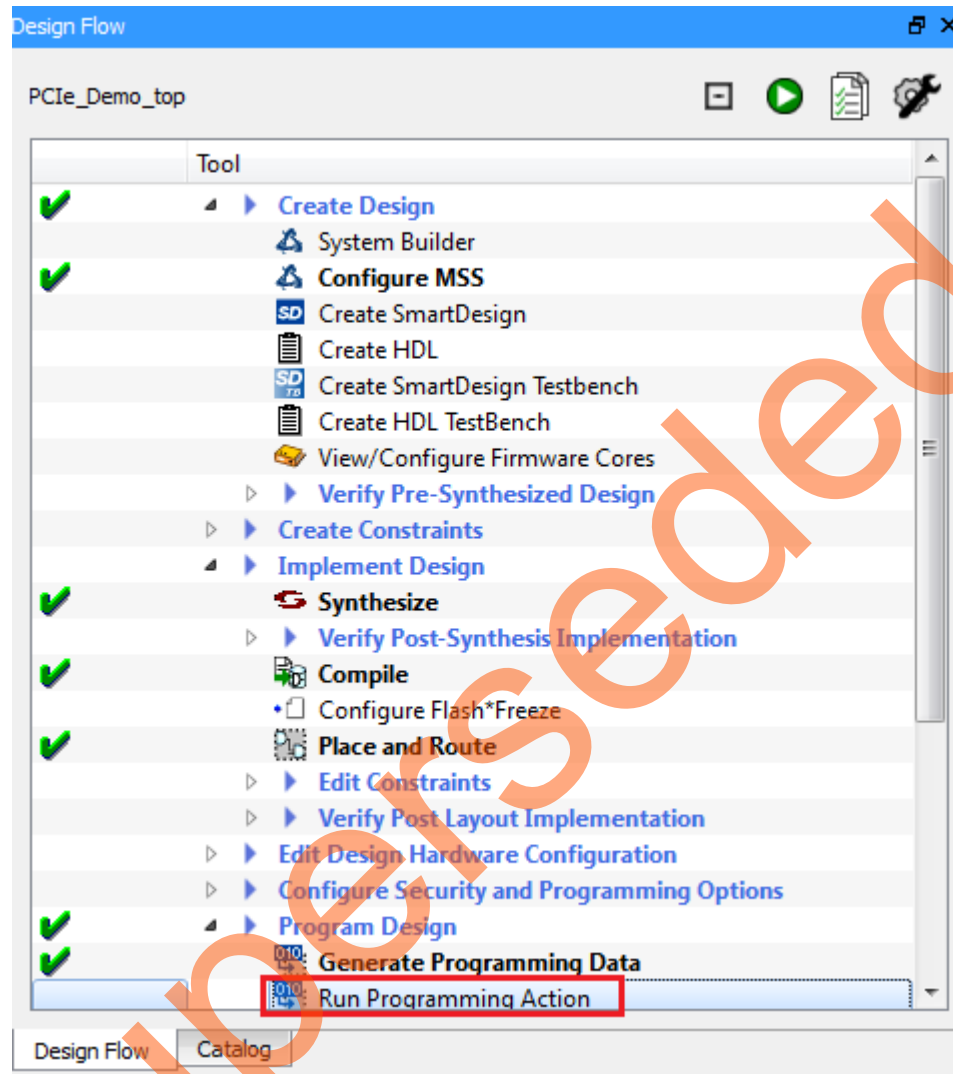

Figure 53 • Run Programming Action
5. To program the SmartFusion2 device double-click **Run Programming Action** in the **Design Flow** window as shown in Figure 53.